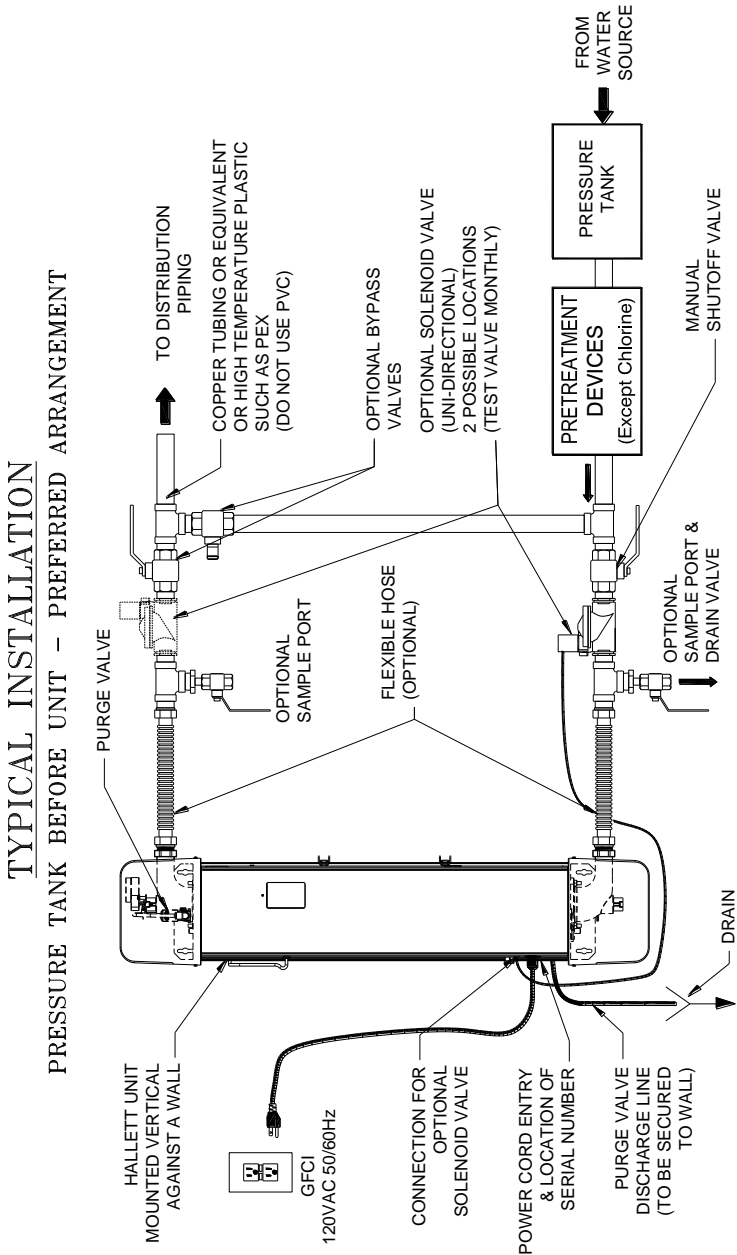

Figure 4.2
These fittings, pipe insulation, and any piping compatible with the plumbing should be on hand before you begin installation. See Figure 4.2 and make a list of all necessary components including solder, paste and thread sealant. Bypass piping and valves that isolate the unit are optional, (but recommended) as is a drain valve for draining the unit.
Step 1: See Figure 4.2 on how to arrange the piping and optional devices such as the solenoid valve, bypass line, sample ports and drain. If the pressure tank is downstream of the unit, a purge valve relocation kit is required (# GE3).